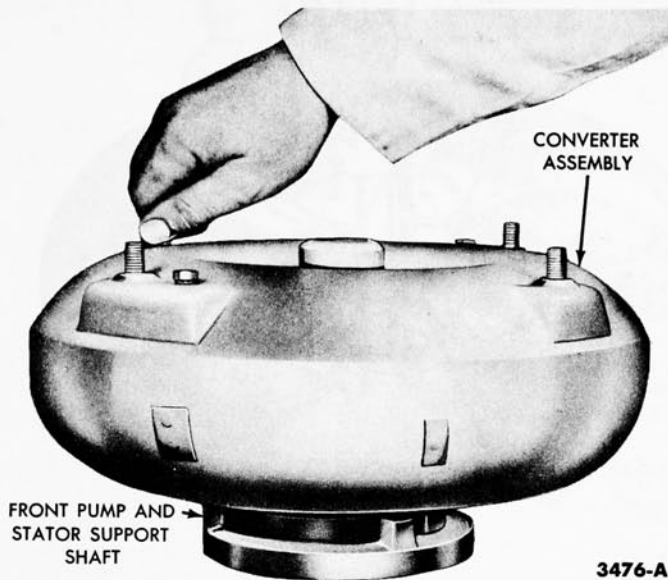

FIG. 1—Stator To Impeller Interference Check
The torque converter is enclosed in a welded steel housing, and cannot be disassembled for service. A special tool is provided (Fig. 1) to check turbine and stator end play and the operation of the one-way stator clutch.
4. Attach a dial indicator to the tool (Fig. 1). Position the indicator button on a converter pump drive hub lug, and set the dial face to 0 (zero).
2. Install the stator outer race holding tool in one of the four holes provided in the stator (Fig. 1).
5. Place a torque wrench on the tool (Fig. 1). The tool (and stator inner race) should turn freely clockwise (from the pump drive hub side of the converter). It should lock up and hold a 10 foot-pound pull when the wrench is turned counterclock-